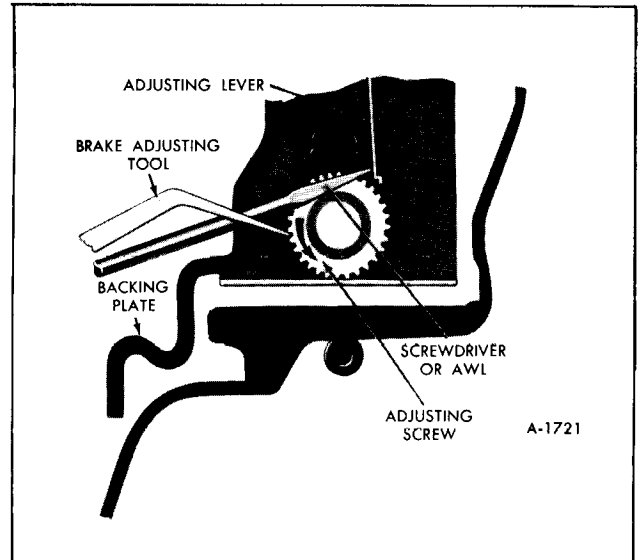

Figure 7—Backing Off Brake Adjustment
2. Back off brake adjusting screw (figure 7) at each wheel 30 notches. If shoes drag lightly on drum,
**NOTE:** It may be necessary to back off the brake shoe adjustment before the brake drum can be removed. To back off brake shoe adjustment, refer to Figure 7.